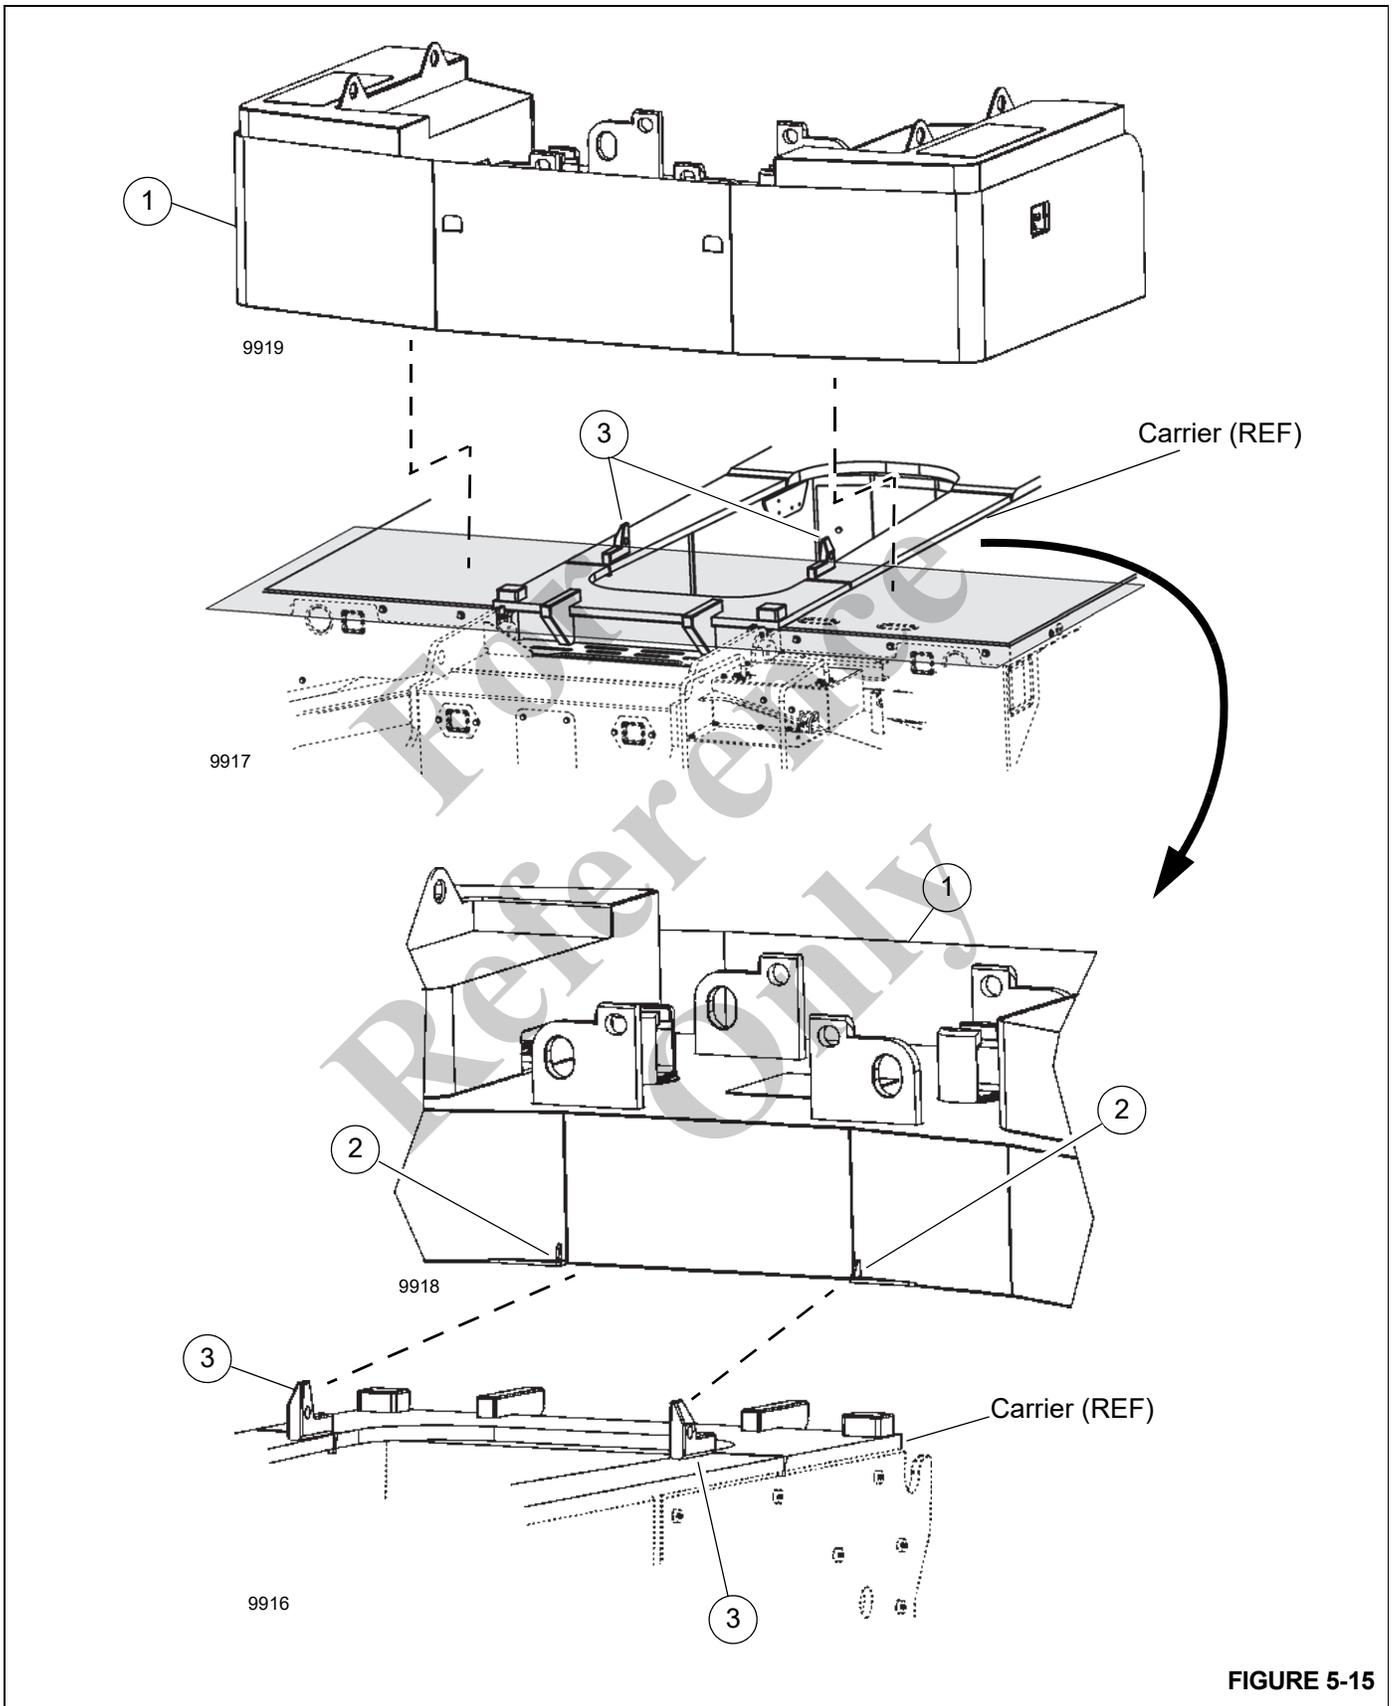

FIGURE 5-15
7. Lift the counterweight (1, Figure 5-15) and place it on the counterweight platform on the carrier. Align the